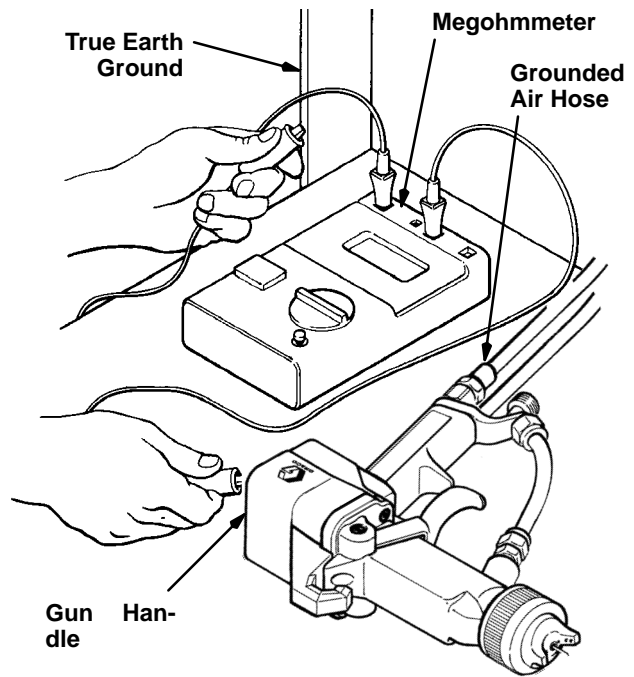

Fig 2
- a. With the electrically conductive air hose connected and properly grounded, use a megohmmeter to measure the resistance between the gun handle and a true earth ground. Use an applied voltage of 500 minimum to 1000 volts maximum. See Fig 2.